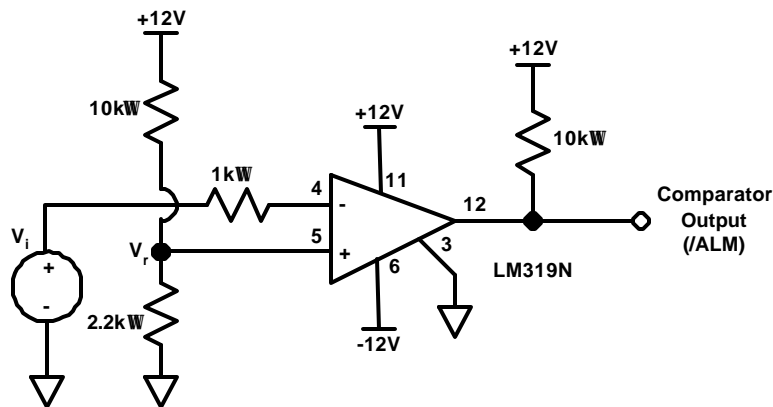

Figure 5.8
- I. Be sure the NI ELVIS board is off, but launch the NI ELVIS instrument system on the computer. Be sure to connected the +12V and –12V variable power as indicated in Figure 5.8. Consult the theory section if you do not remember the numbering of the pins. Build a comparator circuit shown in Figure 5.8 on the breadboard. What is the reference voltage? Calculate V_r and measure V_r and record both in Table 5.1.